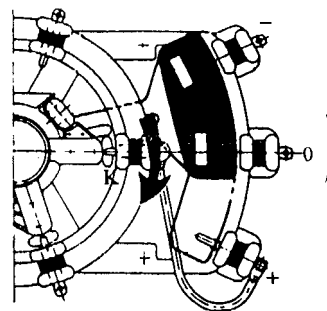

Fig.18 Contact system of coarse changeover selector
f. From the intermediate gear connector at the oil compartment bottom remove the red-painted dowel pin (see fig 18). To ensure the proper operation of the tap changer and the correct mounting position, the bell type tap changer should be pre-assembled. The actual procedure for pre-assembling are as follows.